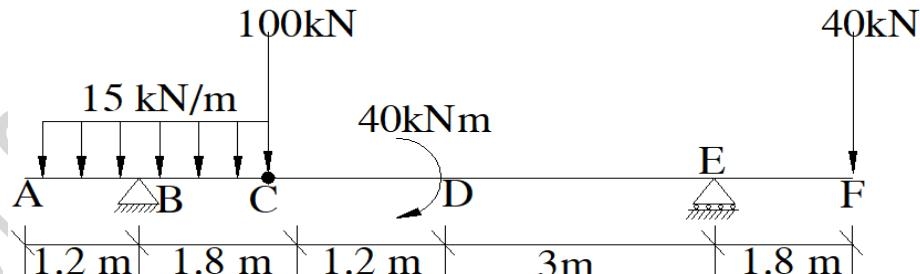

Figure 4
b) The beam is supported and loaded as shown in the figure 4. Draw the SFD and BMD indicating the salient points. 15